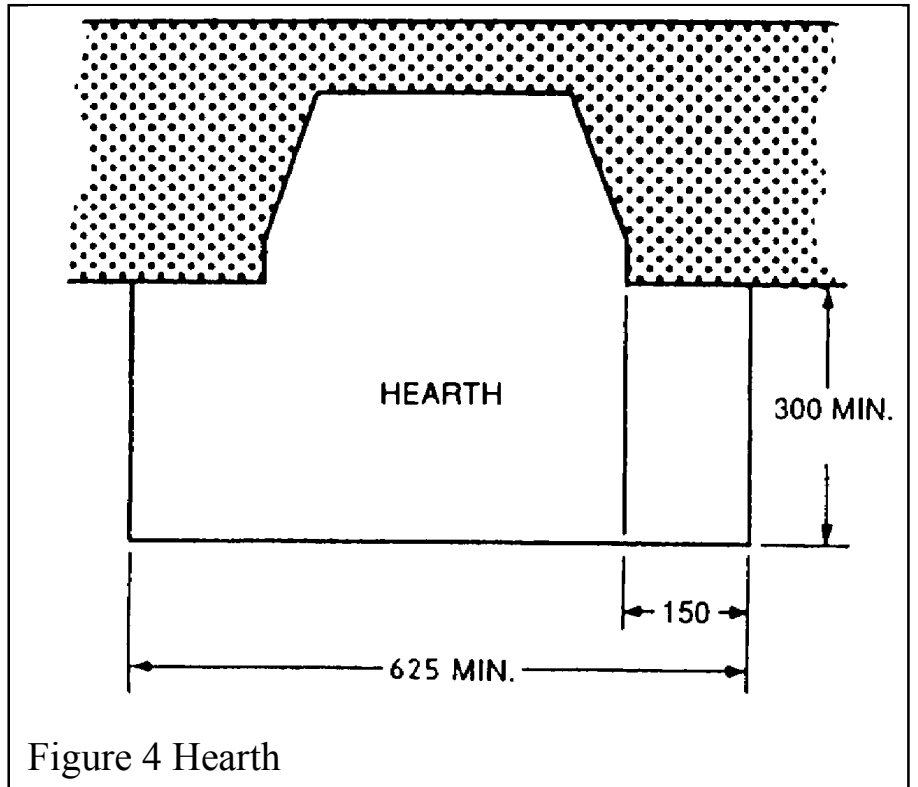

Figure 4 Hearth
**2.16** The appliance must be mounted on a non-combustible hearth in accordance with Figure 4. The hearth material must have a minimum thickness of 12.5mm (1/2"). The periphery of the hearth (or fender) should be at least 50mm above floor level to discourage the placing of carpets or rugs over it.